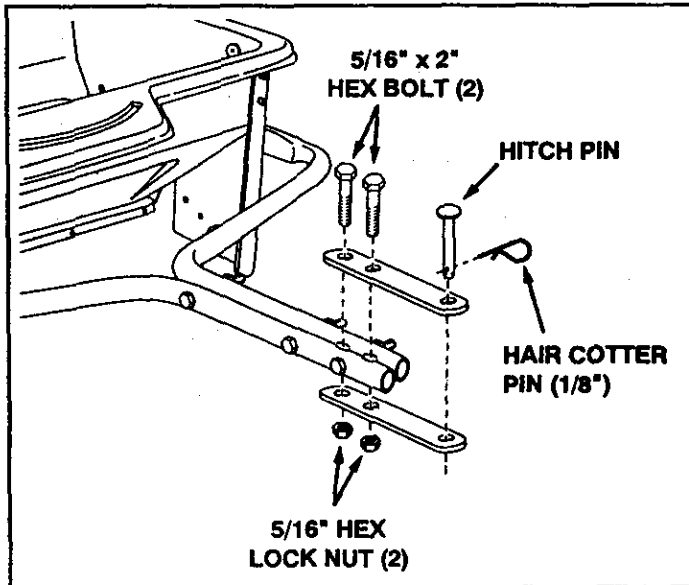

FIGURE 5
- Assemble the hitch brackets to the hitch tubes using two 5/16" x 2" hex bolts and 5/16" hex lock nuts. **Tighten.** See figure 5.
- Assemble the hitch pin through the hitch brackets and secure with the hair cotter pin. See figure 5.